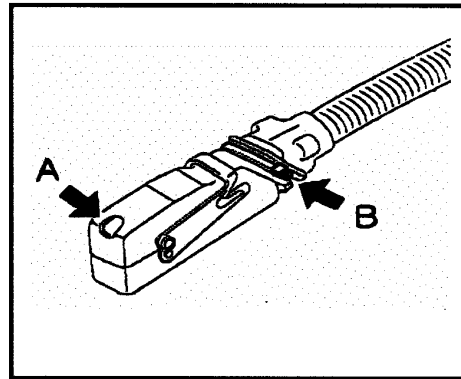

Figure 1
5. Apply silicon sealant (commercially available) on the securing screw (part A, figure 1) of ABS-ECU harness connector to prevent water from entering.
6. Remove band-clip (part B, figure 1).